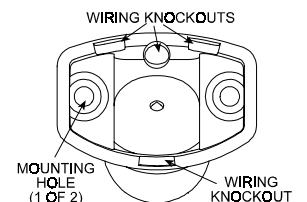

Figure 8. Bracket Rear
F. Punch out the selected wiring knockouts in the bracket base (see Fig. 8).